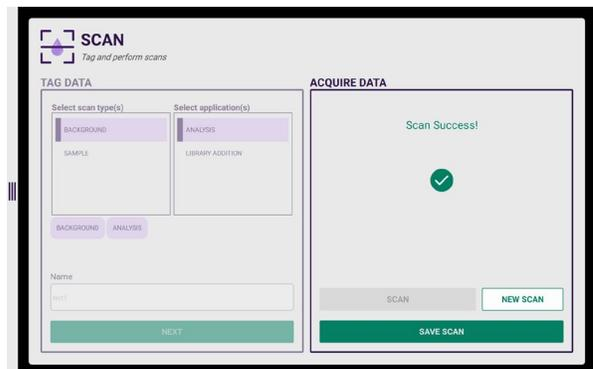

Figure 11. Confirmation that scan is successful and ready to save.
6. Scanning will take roughly 30 seconds to finish and present a confirmation when successful. A green circle with a check mark indicates the scan passes internal QC criteria (Fig. 11).